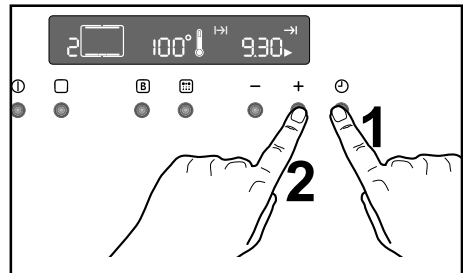

Fig. 11
- 2) Press button ⏸ until the "End of Cooking" function →| is selected and the relevant symbol flashes. The control panel will display the end of cooking time (that is, the actual time + cooking duration time - Fig. 11).